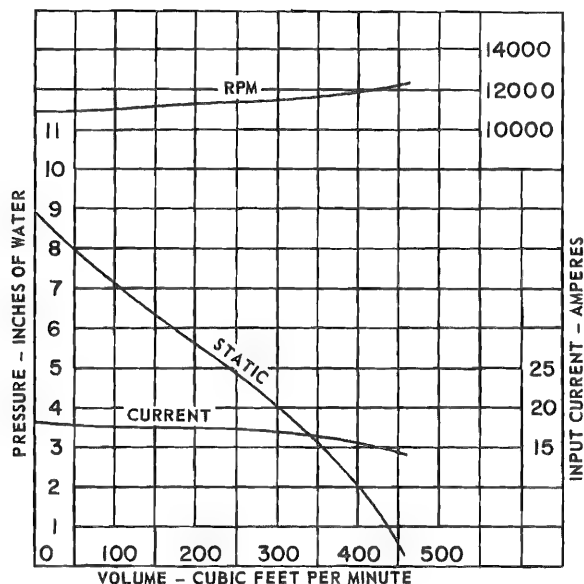

Figure 10-9. Performance Chart
d. After 10 minutes the input current shall not exceed 18.7 amperes. Static pressure shall not be less than 5.5 inches H₂O at 0.0765 density. (See figure 10-9.)